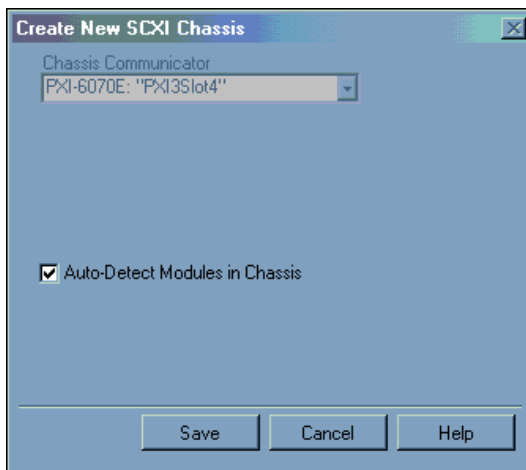

Figure 2-7. Auto-Detection of Modules in SCXI Chassis
1. Select whether or not to auto-detect SCXI modules as shown in Figure 2-7. If you do not auto-detect modules, MAX disables Communicating SCXI Module Slot.